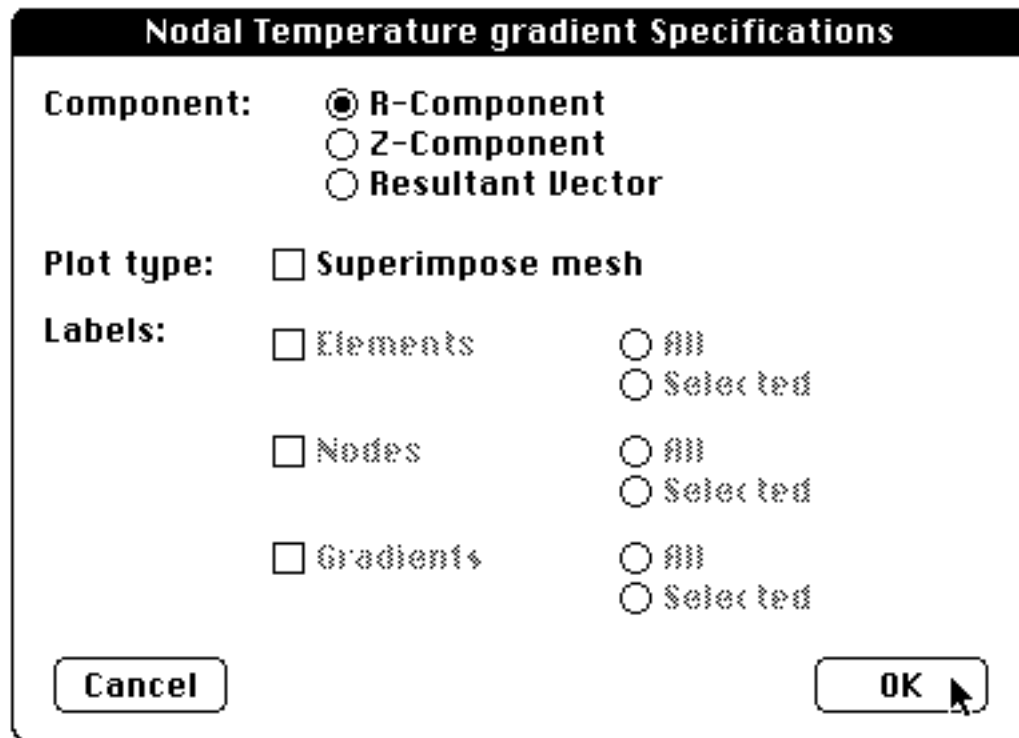

Fig 3.75 Select gradient plot type
- Designate the component you want to plot (Fig 3.75).